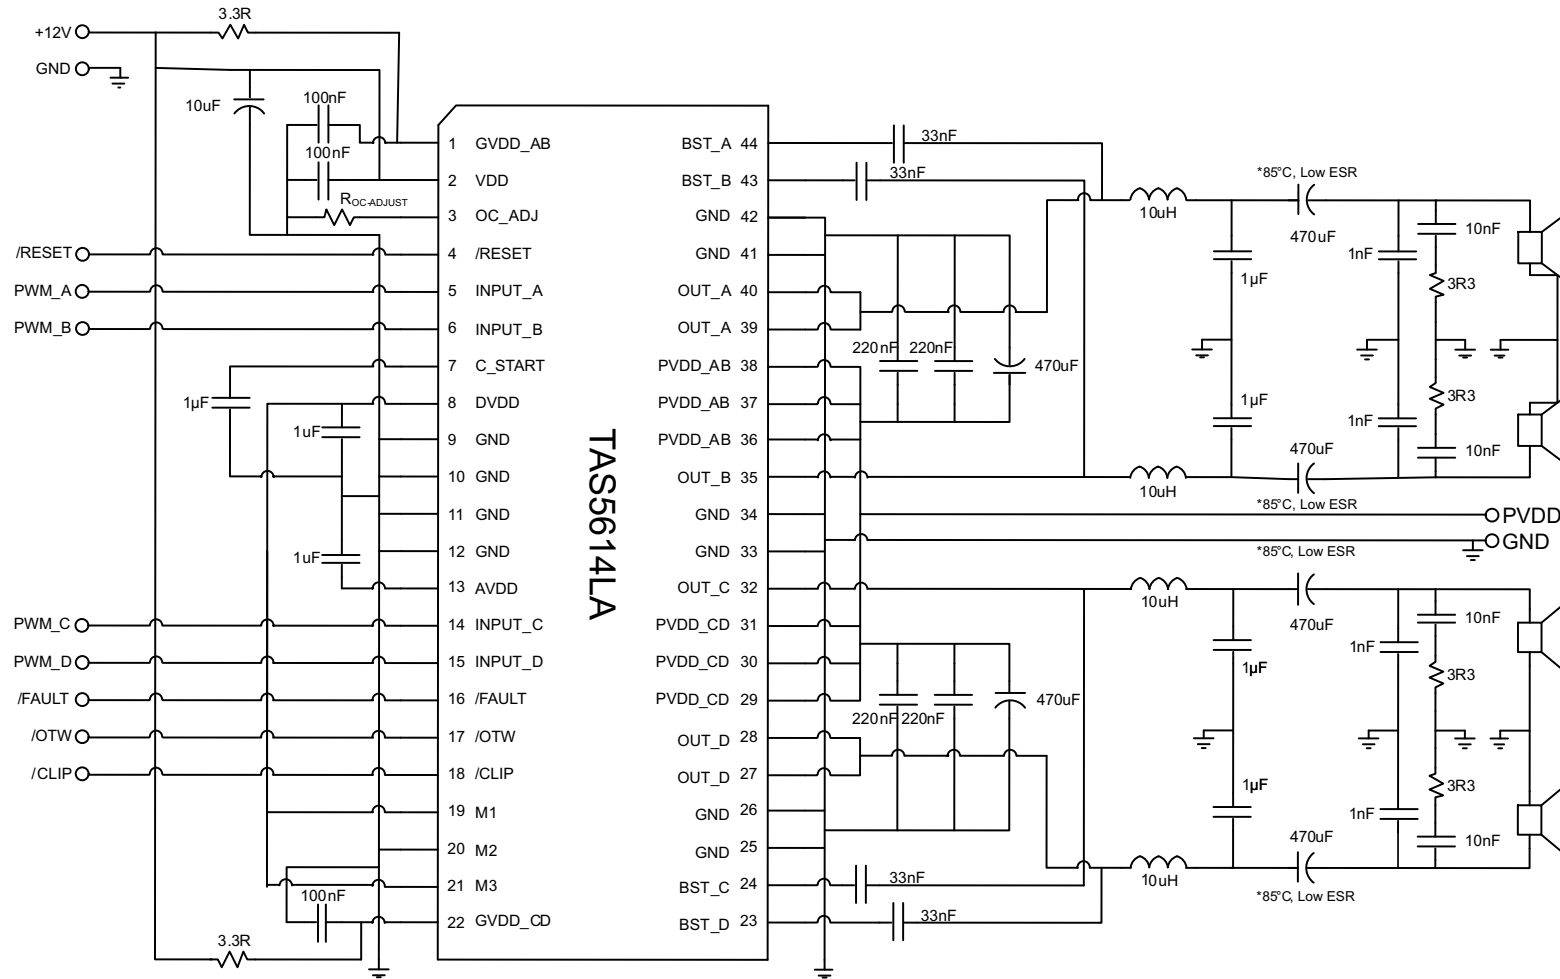

图 19. Typical (1N) SE Application
See 图 19 for application schematic. In this application, four single-ended PWM inputs are used with AD modulation from the PWM modulator such as the TAS5558. AD modulation scheme is defined as PWM(+) is opposite polarity from PWM(-). The single-ended (SE) output configuration is often used to drive 4 independent channels in one TAS5614LA device.
- Pins 27, 28, 32, 35, 39, 40 - Output pins from half-bridges A, B, C, and D. Connect appropriate bootstrap capacitors and differential LC filter as shown in 图 19.
- Pins 29, 30, 31, 36, 37, 38 - Power supply pins to half-bridges A, B, C, and D. A and B form a full-bridge and C and D form another full-bridge. A 470-uF bulk cap is recommended for each full-bridge power pins. Two 0.22-μF decoupling capacitors are placed on each full-bridge power pins. See 图 19 for details.